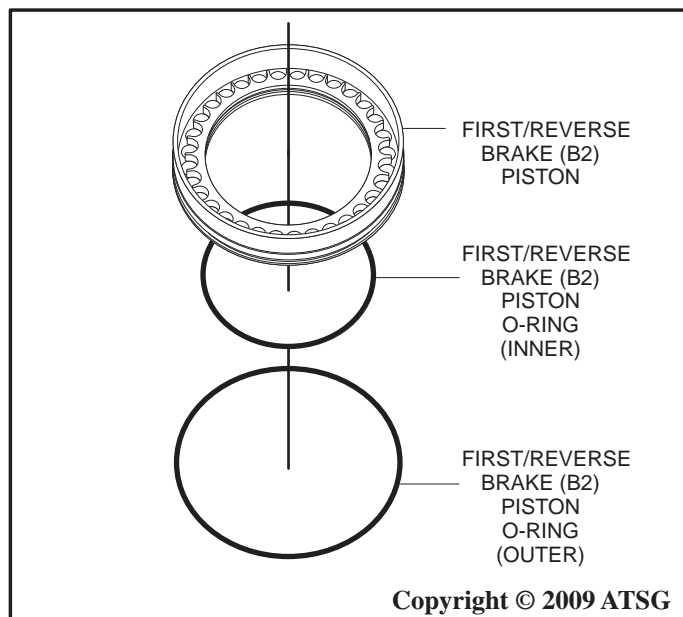

Figure 146
6. Install a new outer and inner o-ring onto the first/reverse brake (B2) piston as shown in Figure 146, and coat the o-rings with a small amount of Trans-Jel®.